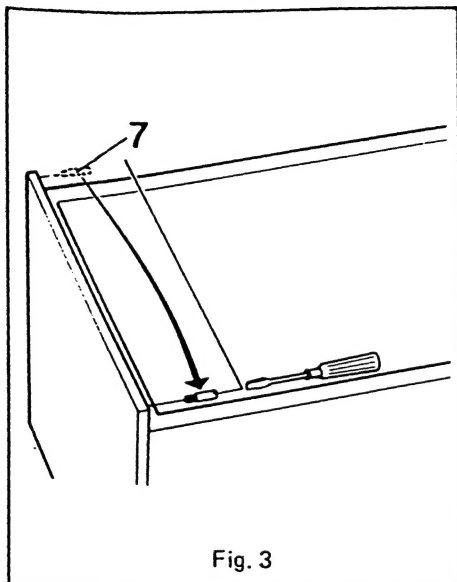

Fig. 3
2. Gently lay the refrigerator on its back. Remove both front feet by taking out the screw and washer (5) from the centre of the small foot, and both screws and washers from the large foot. (The large foot and hinge blade will become detached as a complete assembly).
4. Unscrew the upper hinge pin (7, fig.3) and transfer it to the opposite side.
6. Remove the screw (2) securing the metal casting (1) to the bottom of the door then prise out the casting (1) from the door.